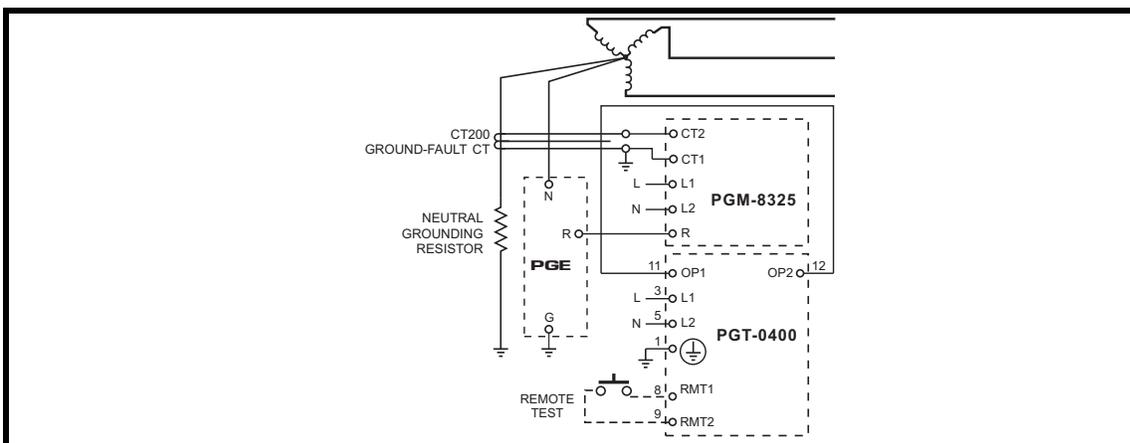

FIGURE 10. Ground-Fault-Test Circuit.
- d) Verify proper reaction of the circuit-interrupting device in response to a simulated or controlled ground-fault current. To simulate ground-fault current, use CT-primary current injection. Fig. 10 shows a test circuit using a POWR-GARD PGT-0400 Ground-Fault Relay Test Unit. The PGT-0400 has a programmable output of 0.5 to 9.9 A for a duration of 0.1 to 9.9 seconds. Set the test current to 0.6, 2.3, or 4.6 A for PGM-8325 units set at 0.5, 2.0, or 4.0 A respectively. Inject the test current through the current-transformer window for at least 2.5 seconds. Verify that the circuit under test has reacted properly. Correct any problems and re-test until the proper reaction is verified.